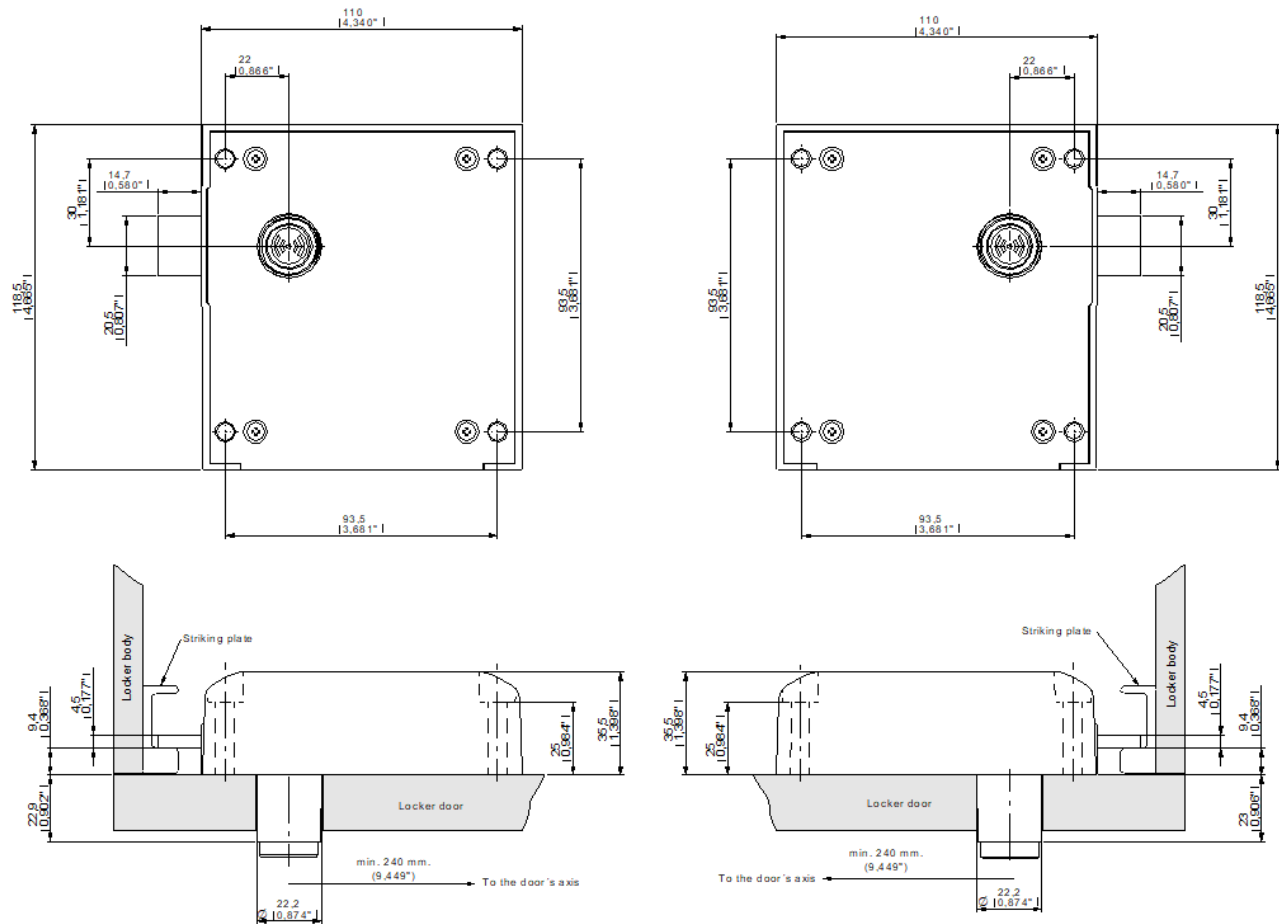

Figure 4. Measurements of OTS lock in mm (inches).
**(\*) NOTE:** During installation, ensure that the lock does not collide with the locker body with the door open. The dimensions and location of the fixing holes are shown in Figure 4.